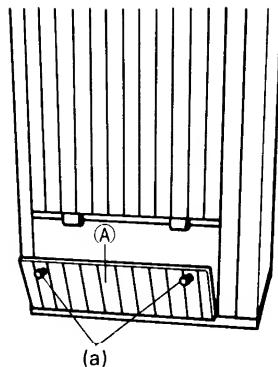

Fig. 1
- (1) Open the front panel (A) by pulling the knobs (a) toward you. Then lift the panel up and off as shown in Figure 1.